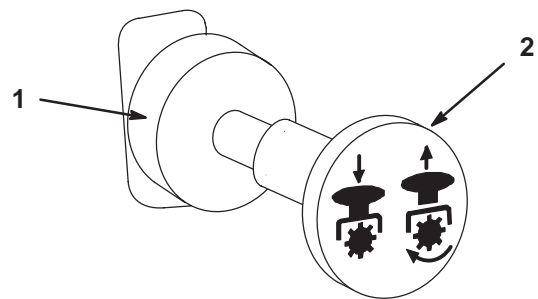

Figure 19
- Pull out on the power take off (PTO) switch to engage (Fig. 19).
- To disengage push the PTO switch to the “OFF” position (Fig. 19).